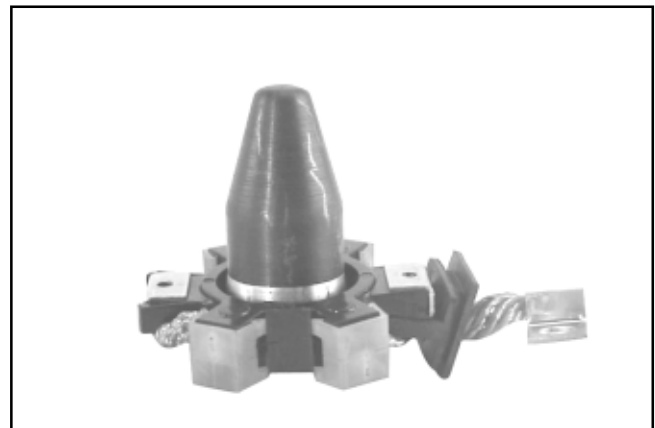

Figure 8-65. Brush Installation Tool with Extension.
- c. Install the brush springs and snap on the four retainer caps. See Figure 8-65.